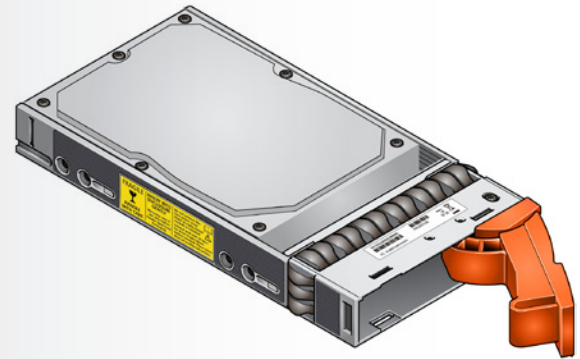

Fig. 98 - Drive Carrier Module with Handle Released
1. Release the carrier handle, by pressing the latch in the handle with your finger and rotating the handle towards the right (Fig. 98).